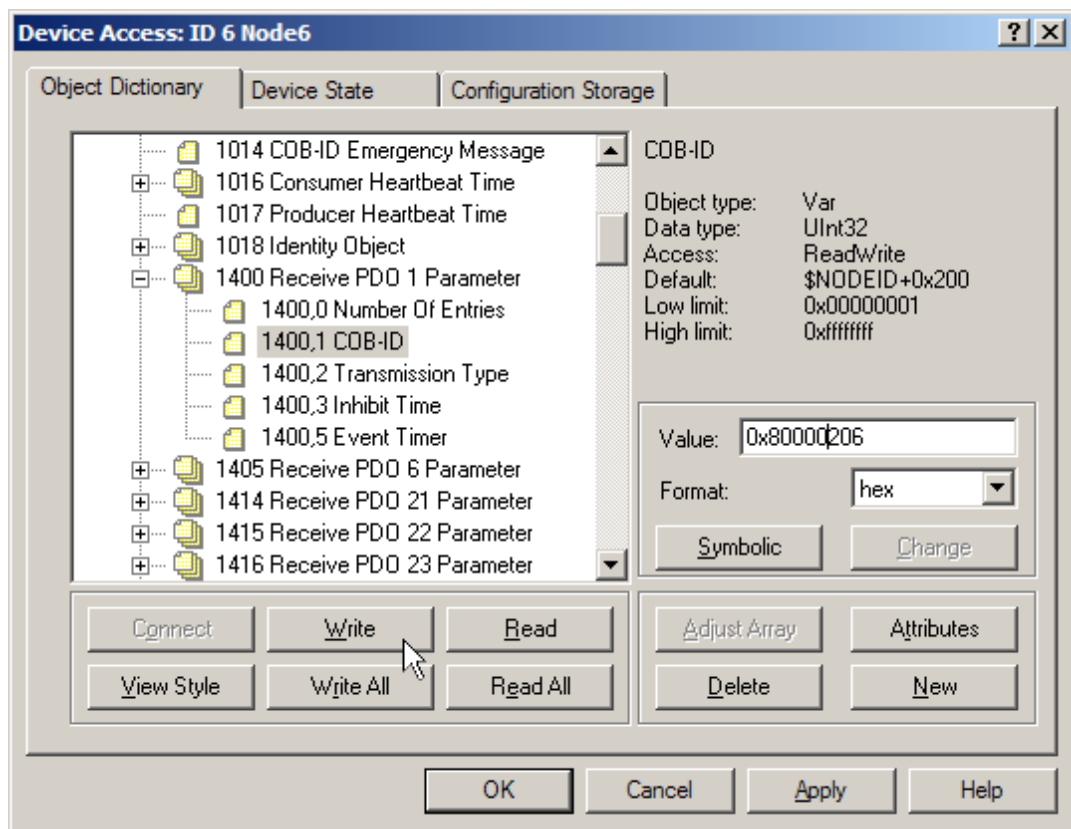

Figure 1: Writing a CANopen object with Vector CANsetter v. 5.2.
Writing a CANopen object with Vector CANsetter v. 5.2 is illustrated in **Figure 1**.
2. Make sure that TPDO21 is disabled by setting bit 31 of TPDO21 COB-ID (CANopen object 0x1814,1). For this example, use the value 0x80000388. This must be done in order to change TPDO21 mappings. See **Figure 1** in Example 1 for an illustration on how to disable a PDO in Vector CANsetter v. 5.2.